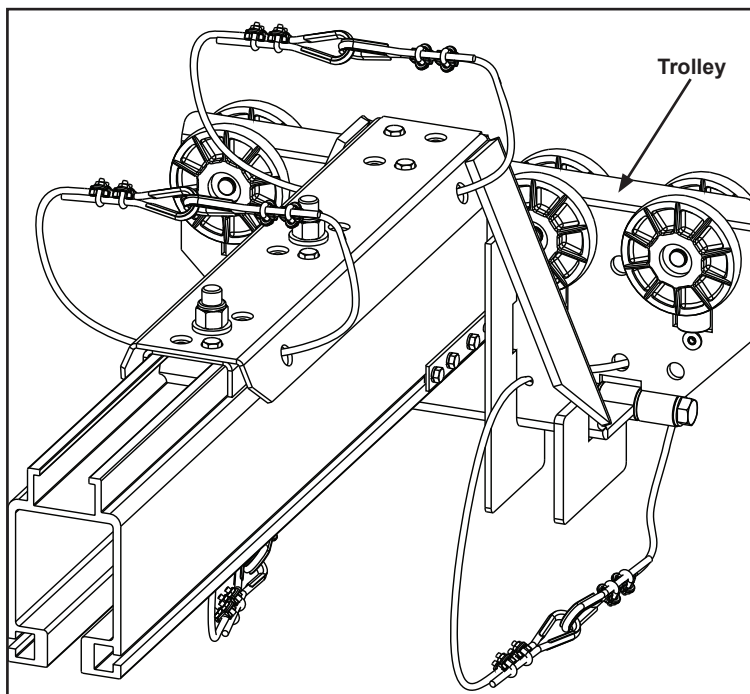

Figure 3-150
**Same Plane End Trucks** (See Figure 3-150)
- Step 2. Use top rail mounting bracket as template to mark rail and drill four (4) holes on each end of outer mounting bracket, using 13/32 in (11 mm) drill bit. Do not attempt to drill holes in-line.